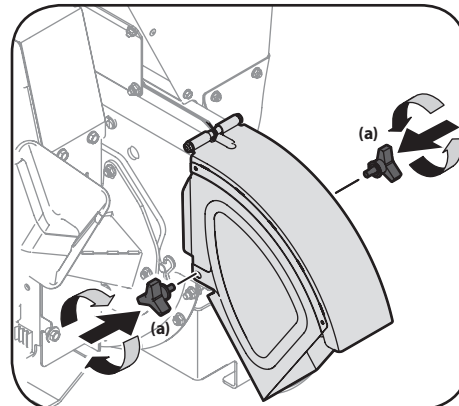

Figure 3-3
5. Secure both sides of chute deflector to impeller housing using wing knobs (a) removed in Step 1. See Figure 3-3.